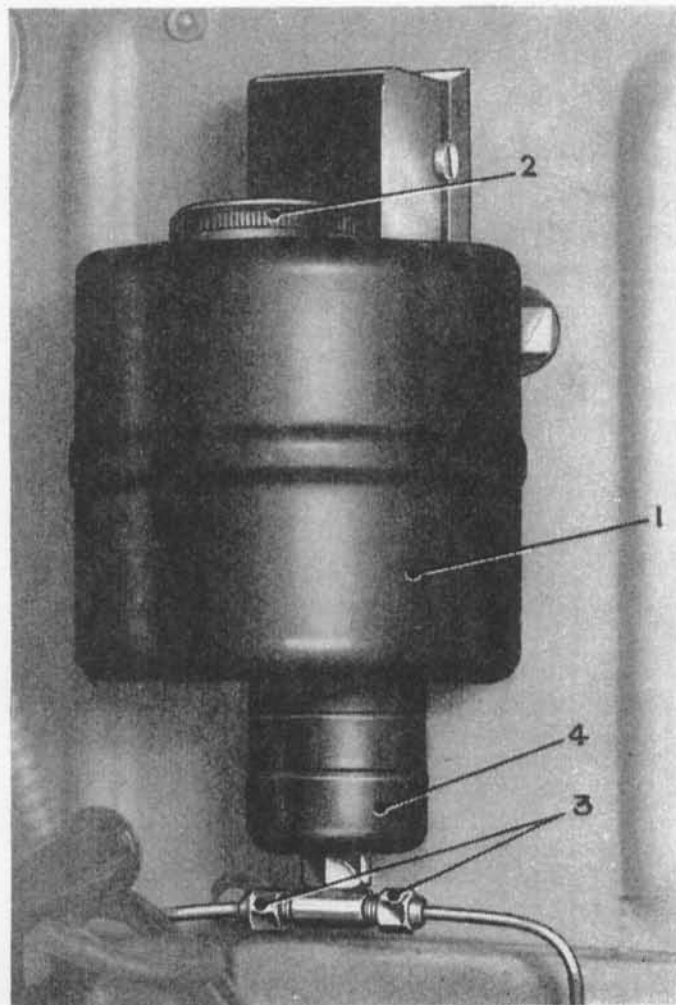

Fig. 4.—CHASSIS OIL PUMP AND RESERVOIR.
The chassis oil pump is shown in Fig. 4. Normally no attention to the system is necessary beyond filling of the reservoir with the correct oil (see page 28), after removal of the filling plug (2), as directed on page 29.